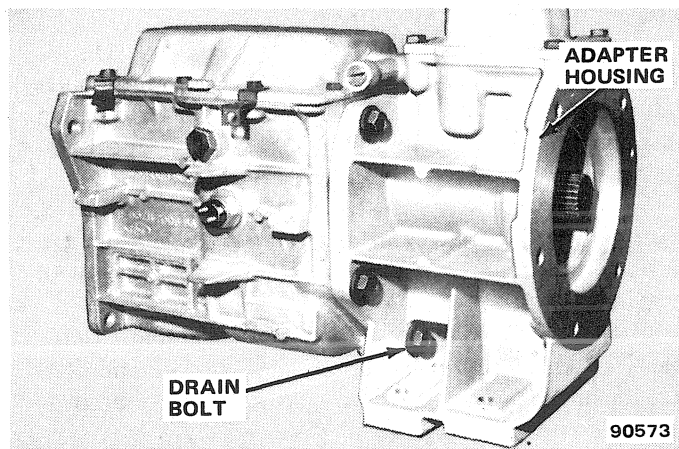

Fig. 2B-4 Drain Bolt Location
- (8) Remove spring clip that attaches reverse lever to reverse lever pivot bolt (fig. 2B-7).